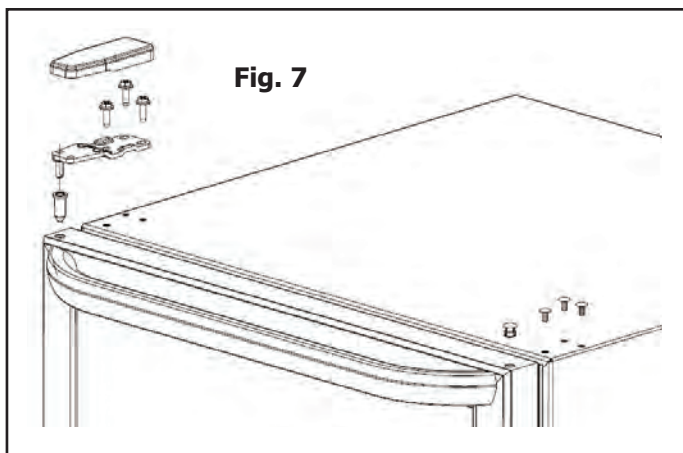

Fig. 7
7. On top edge of door, transfer the button plugs and bushing to hole on opposite side. See Fig. 7.
8. Place bottom LH corner of door onto lower hinge, then install top hinge to cabinet. Make sure door is level and it seals properly against cabinet, then securely fasten three screws. See Fig. 7. Snap top cap back onto hinge.